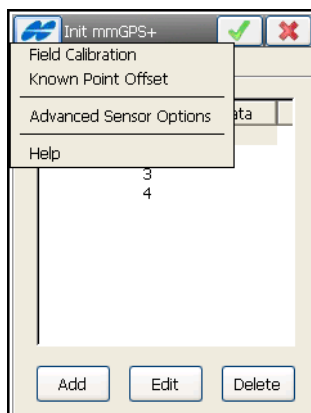

Figure A-8. Open Known Point Offset
1. On the *Init mmGPS+* screen, tap the **bitmap** menu in the upper-left corner of the screen and select **Known Point Offset** (Figure A-8).